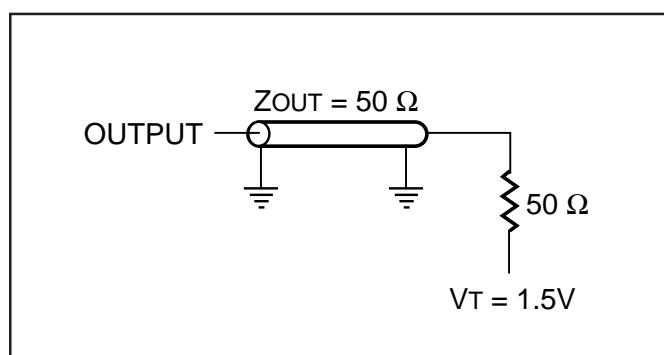

Figure 1
1. Test conditions assume signal transition times of 3 ns or less, timing reference levels of 1.5V, input pulse levels of 0 to 3.0V and C1 output loading specified in Figure 1.
2. Tested with the C2 load in Figure 1. Transition is measured  $\pm 500$  mV from steady-state voltage. Not 100% tested.